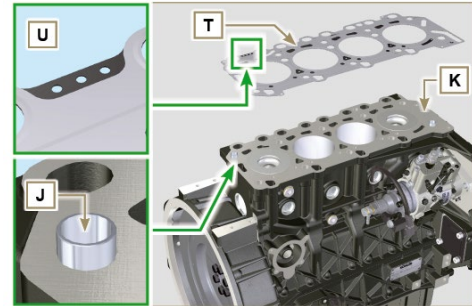

Fig 9.47
4. Based on the value detected at point **3**, select the relevant gasket **T** as shown in the **Tab. 9.2 (Fig. 9.47 detail U)**.